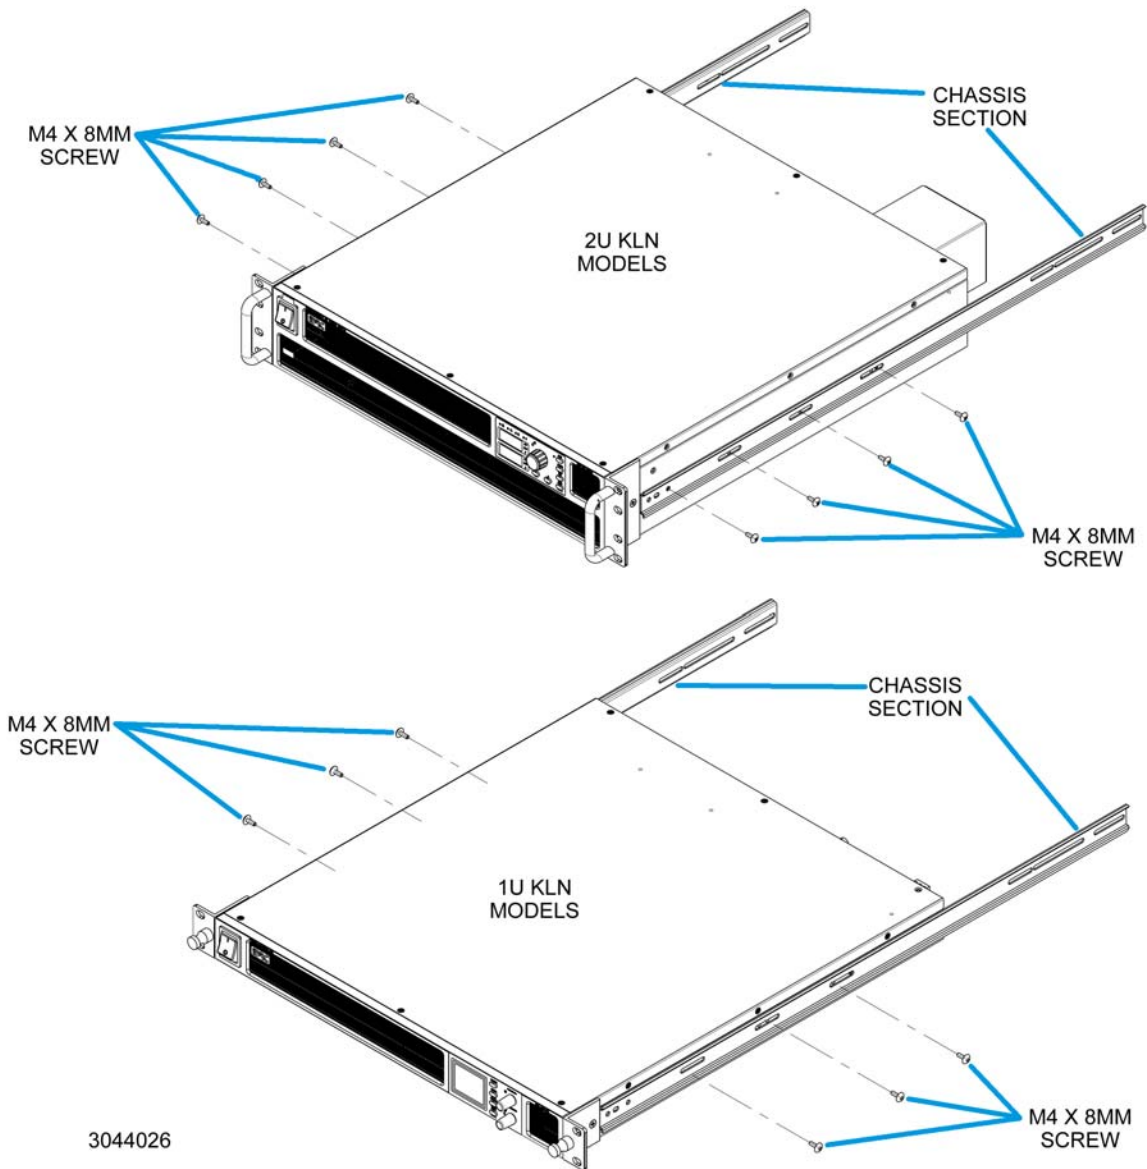

FIGURE 4. ATTACHING CHASSIS SECTION TO POWER SUPPLY.
4. Attach each chassis section to side of KLN power supply as shown in Figure 4. The plastic end of the chassis section should be against the ear bracket. Use three M4 x 8mm screws on each side for 1U models and four M4 x 8mm screws on each side for 2U models.